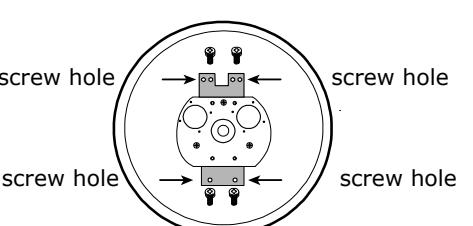

Figure 3
Step 4: Align the screw holes of camera plate with the four screw holes on the bracket in the housing (Figure 3). Then, fix the module to the housing with the supplied four screw holes.